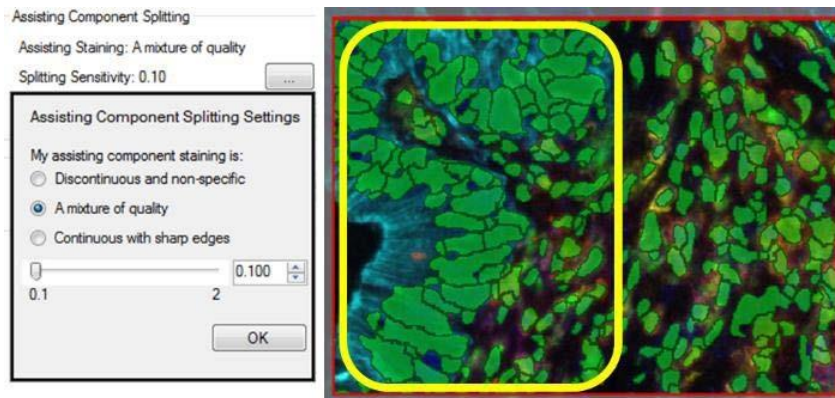

FIGURE G.9. Slider Left - Lower Values.
- o Moving the slider left (lower values) increases the amount of splitting. (See Figure G.9.)